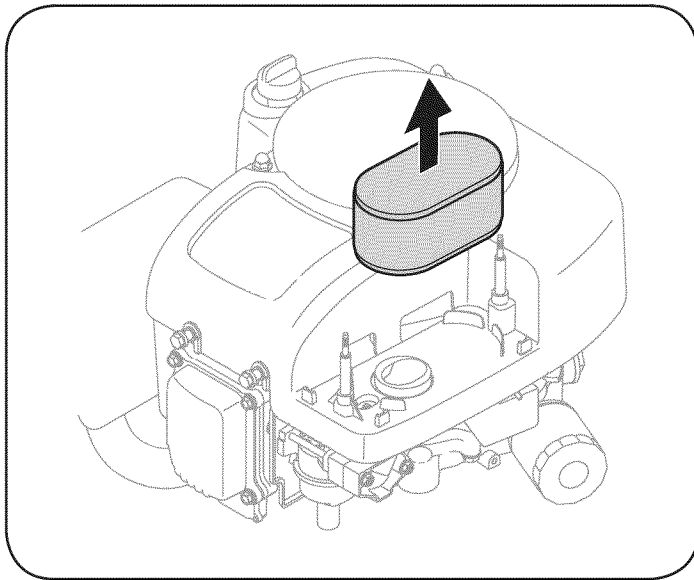

Figure 17
2. Remove the air filter. See Figure 17.